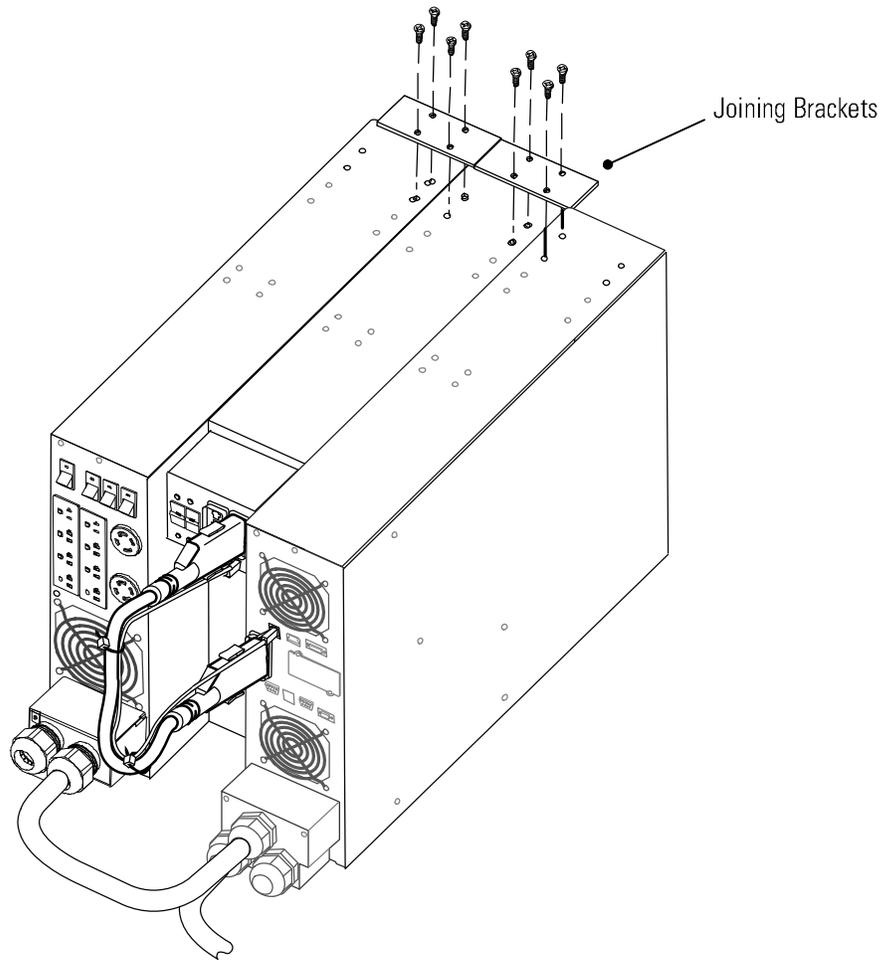

Figure 2. Joining Brackets (9PXTFMR11, 9PX 240V EBM, and 9PX 11k UPS shown)
5. Align each joining bracket with the adjacent cabinet screw holes and secure with the supplied screws (see Figure 2).